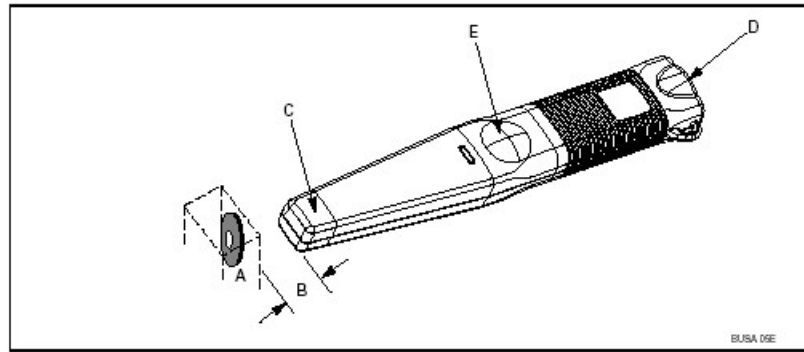

Figure 3. Read/Write
Step 2. Bring the antenna area in the nose of the wand close to the tags/labels to be read. (See Figure 3.)